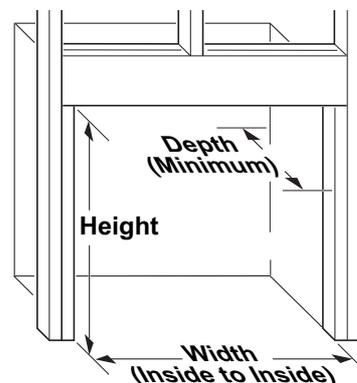

Figure 13 - Rough Opening for Installing in Wall
- Frame in rough opening. Use dimensions shown in Figure 13 for the rough opening. If installing in a corner, use dimensions shown in Figure 14, Page 13; Figure 13, for the rough opening.